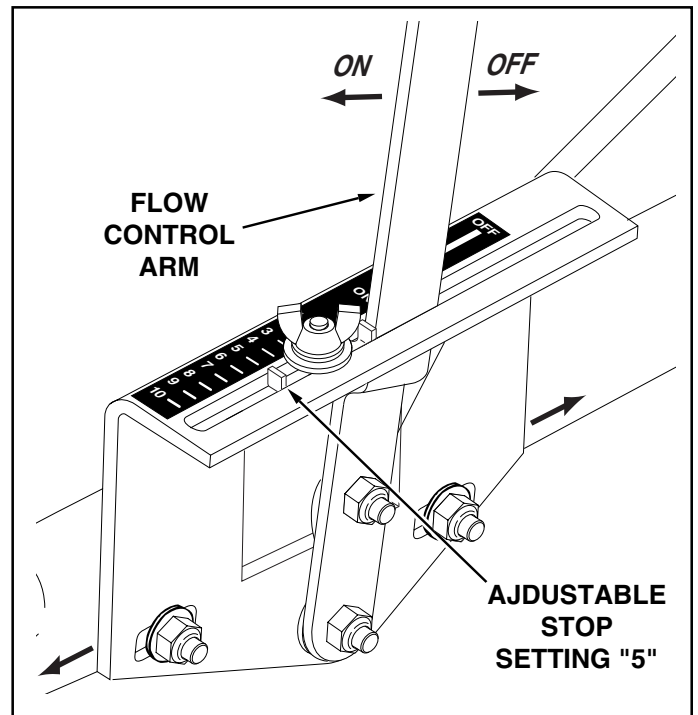

FIGURE 13
23. Position the flow control mounting bracket (figure 13).
(Refer to figure 13 on page 7.)